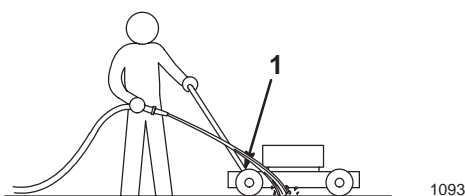

Figure 15
3. Hold the running water at handle level and direct the water to flow on the ground just in front of the **right rear** tire (Fig. 15).